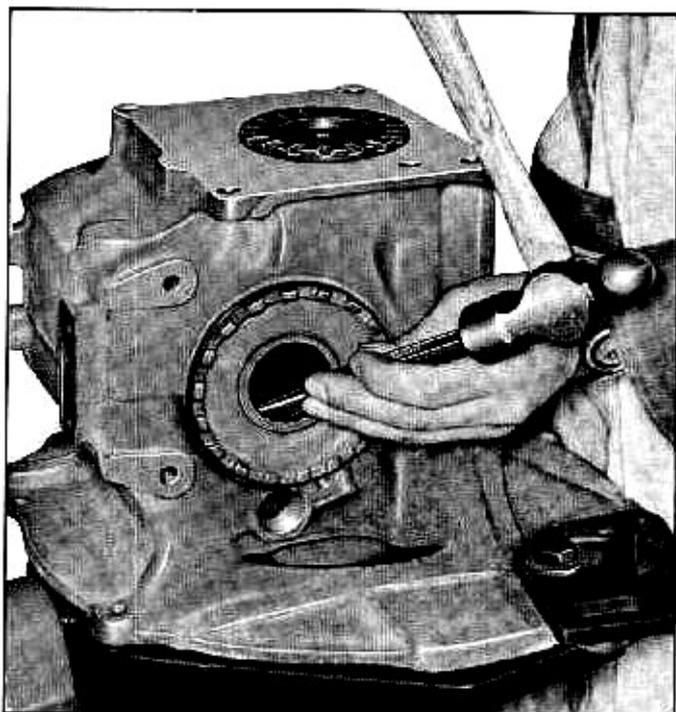

Fig. 5—Removing Differential Bearing Race
1. Install side bearing adjusting sleeve and race assembly into carrier until finger tight and drive out the old race with a punch or other suitable tool (fig. 5).